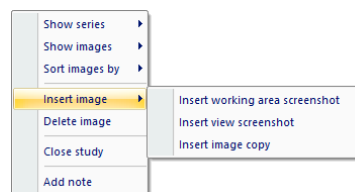

Figure 174 – Context menu of the thumbnails palette
3. Right-click to open the context menu and select the **Insert image/Insert working area screenshot** item (see Figure 174). The image from the current view is then automatically inserted at the end of the target series.
3. Right-click to display the context menu and select the **Insert image/Insert view screenshot** item (see Figure 174). The screenshot of the current view is then automatically inserted at the end of the series.
3. Right-click to display the context menu (see Figure 174) and select the **Insert image/Insert image copy** item (see Figure 174). The image from the current view is then automatically inserted at the end of the series.
2. Right-click to display the context menu (see Figure 174) and select the **Delete image** item. The image is then automatically deleted from the series.